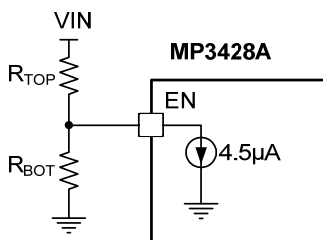

Figure 2:  $V_{IN}$  UVLO Program
The MP3428A features a programmable UVLO hysteresis. When powering up, EN sinks a 4.5μA current from the upper resistor,  $R_{TOP}$  (see Figure 2).  $V_{IN}$  must increase in voltage to overcome the current sink. The  $V_{IN}$  start-up threshold is determined by Equation (2):